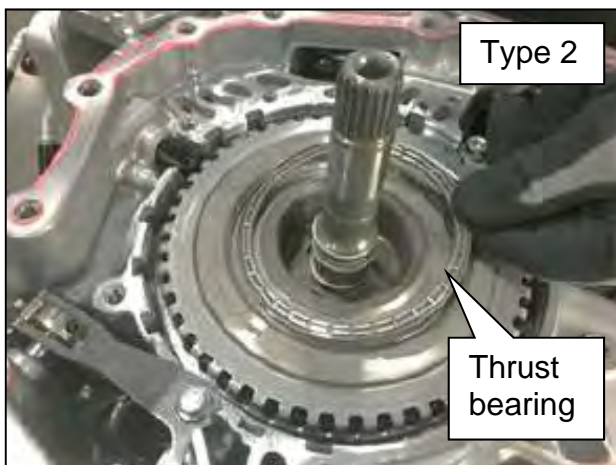
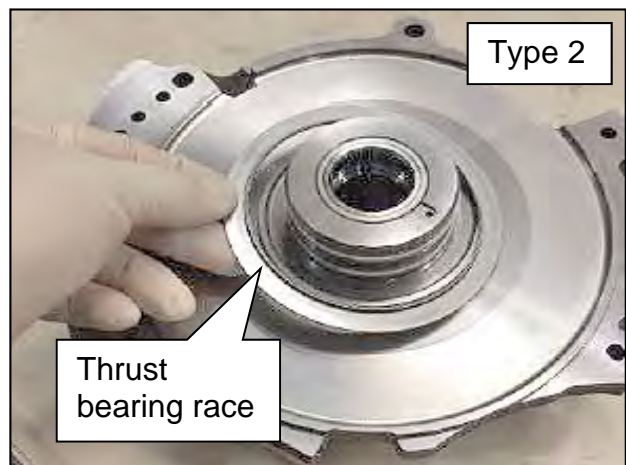

Figure 53
Figure 54
- Depending on the model year and make of the vehicle there will be one of two different dummy covers and corresponding clutch packs; Type 1 (Thrust Bearing) and Type 2 (Thrust Bearing with Bearing Race) – See Figure 53 and Figure 54.
30. For **Type 2**, remove the thrust bearing from clutch assembly (Figure 53) and bearing race from the dummy cover (Figure 54).